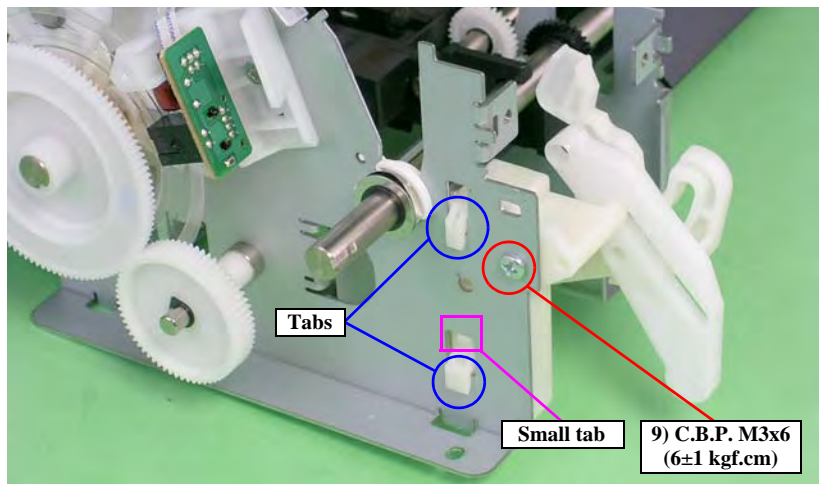

Figure 4-116. Removing the Left CDR Release Lever Sub Assy
- Align the two tabs on the Left CDR Release Lever Sub Assy with the positioning holes on the Main Frame. (See Figure 4-116.)